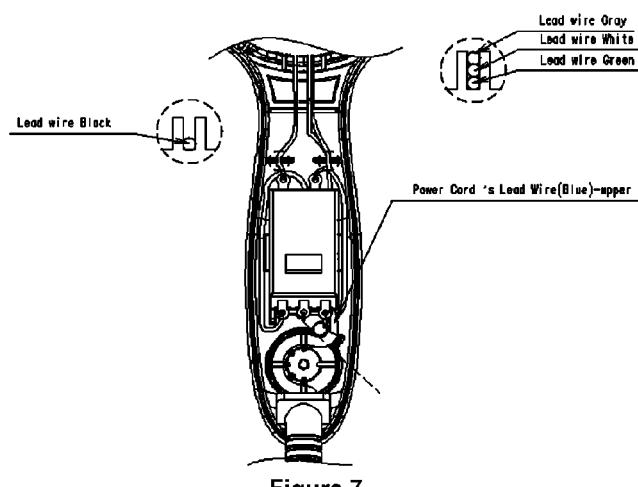

Figure 7
4. Put Air flow ass'y B/K into Housing B and aligning all lead wires as shown in Figure 7.